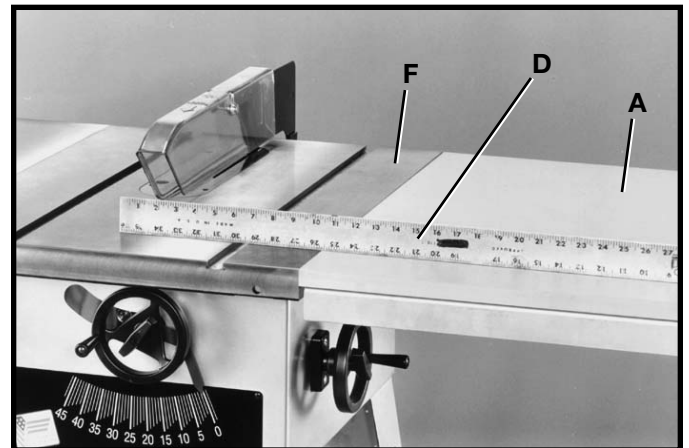
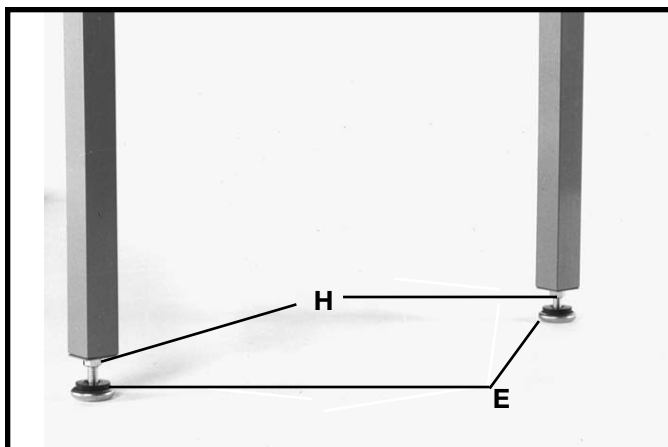
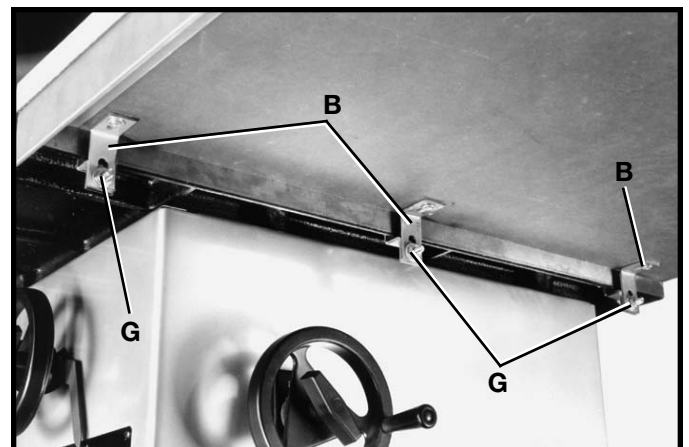

Fig. 56
Fig. 57
Fig. 58
3. Using a straight edge (D) Fig. 56, make certain the surface of the Unifence table (A) is level with the saw table (F) by adjusting the height of the two leveling screws (E) Fig. 57, at the base of the table legs and adjusting the height of angle brackets (B) Fig. 58 and tighten hex nuts (G) Fig. 57, against the bottom of the table legs to hold the leveling screws in position and tighten. Make sure the Unifence table is level with the saw table.